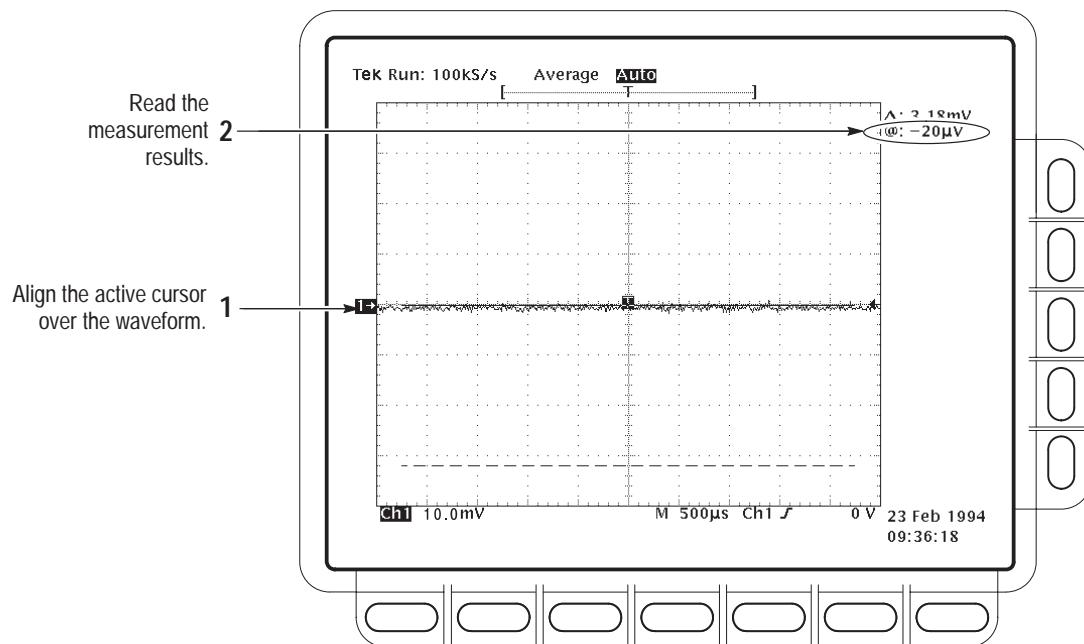

Figure 4–4: Measurement of DC offset accuracy at zero setting – TDS 684C shown
- d.** *Measure the test signal:* Align the active cursor over the waveform by rotating the general purpose knob. Ignore the other cursor. See Figure 4–4.
- e.** Read the measurement results at the absolute (@:) cursor readout, not the delta (Δ :) readout on screen. That is, read the offset relative to the ground reference. See Figure 4–4.